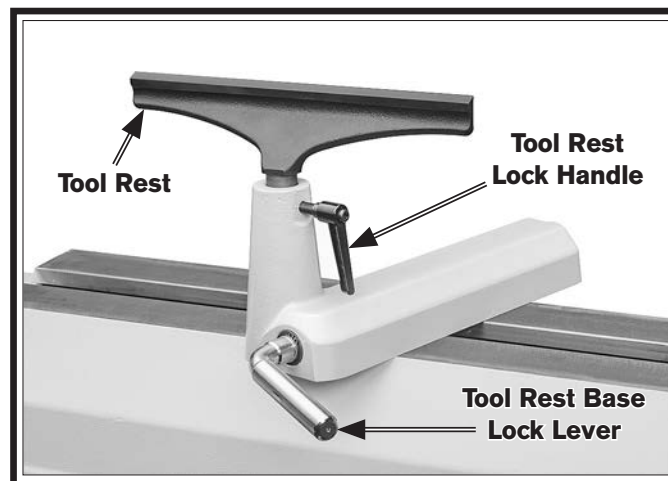

Figure 24. Tool rest assembly components.
1. Loosen tool rest base lock lever and move tool rest assembly to desired position on lathe bed, as shown in **Figure 24**.
3. Loosen tool rest lock handle (see **Figure 24**).